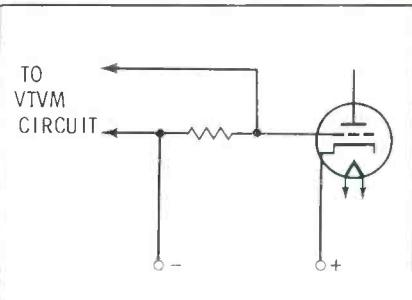

Fig. 7. New tube tester features sensitive circuit for testing grid emission.
- The primary feature we noticed in our lab analysis of the Model 650 was its extremely sensitive grid-circuit test, which utilizes a stable balanced-bridge 12AT7 VTVM circuit. The control grid of the tube being tested is connected to a negative voltage supply through a high-value resistance, and the cathode is connected to the positive supply voltage (see Fig. 7). If any gas, grid-emission, or grid-leakage current is present, it will be measured by the VTVM circuit and can be read on the meter.